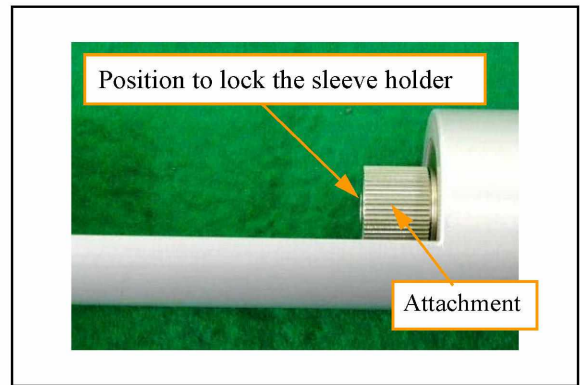

Fig. 56 – Setting the attachment
- Attach the attachment to JT-SA-KA.(Fig.56)